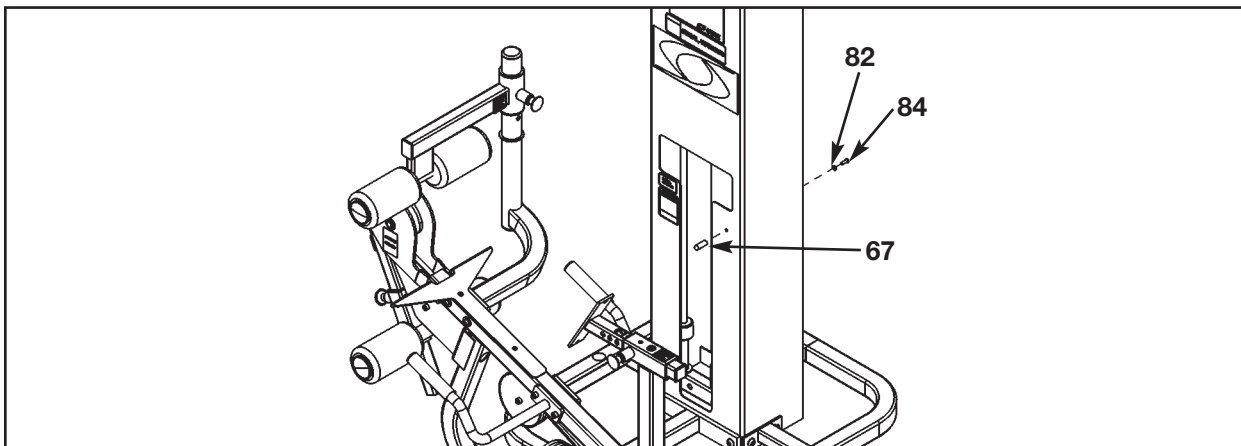

Figure 13
6. Install weight stack (see steps 6A - 6O, Figures 13 - 15).
- B.** Install the half weight peg (#67) as shown in Figure 13.